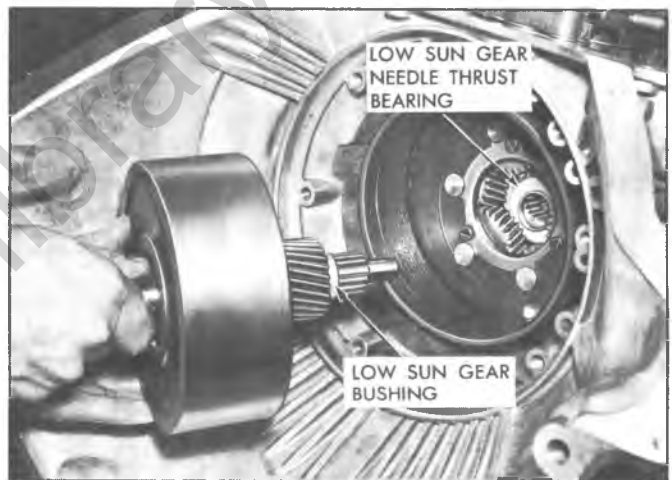

Fig. 7PG--Removing Clutch Drum and Input Shaft
11. Release the tension on the low band adjustment, then, with transmission horizontal, grasp the transmission input shaft and carefully work it and the clutch assembly out of the case (fig. 7PG). Use care so as not to lose the low sun gear (splined) bushing from the input shaft. The low sun gear thrust washer will probably remain in the planet carrier.